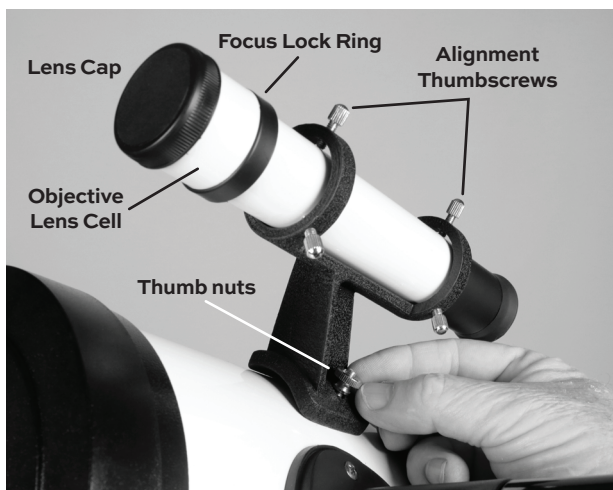

Figure 4.1
Remove the two thumb nuts located near the focuser. Do not remove the small nuts underneath—only the thumb nuts. Place the base of the finderscope over the bolts, then reinstall and tighten the thumb nuts (Figure 4.1).
Point the finderscope at an object far away. If the image appears blurry: Loosen the focus lock ring, located just behind the objective lens cell on the body of the finderscope (Figure 4.1). Rotate the ring a few turns.
The finderscope is held in place by two rings, each with three small silver alignment thumbscrews (Figure 4.1). These thumbscrews adjust where the finderscope points. To use them, you must loosen at least one while tightening another. You may also loosen two and tighten one. It takes a bit of practice, but don't adjust them yet—follow the directions below.
3. Look through the finderscope. If the target is not visible, slightly loosen two alignment thumbscrews (Figure 4.1) on the front ring and tighten another. Did the finderscope move toward the target? If yes, continue adjusting. If not, try loosening a different thumbscrew while tightening the others. This process adjusts the direction of the finderscope. The same method can be applied to the rear ring if needed.